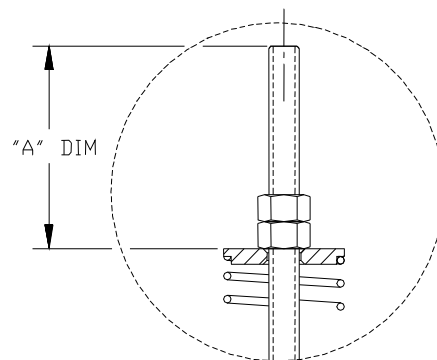
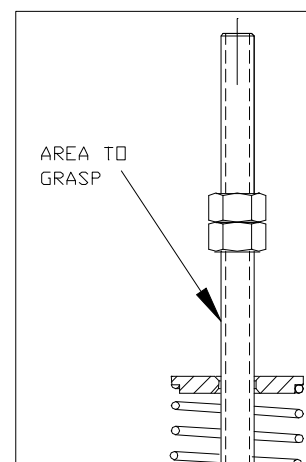

Figure 7 : Vacuum Spring Compression
Figure 8 : Loosening Nuts for Spring
5. Record "A" dimension (Figure 7). Place a short length of pipe (minimum 6" high) beneath the vacuum pallet [23] to prevent it from falling. Back the top nut [15] completely off the stem. Compress the spring using the spring button [16] and grasp the stem (Figure 8). **Caution: Remove the second**